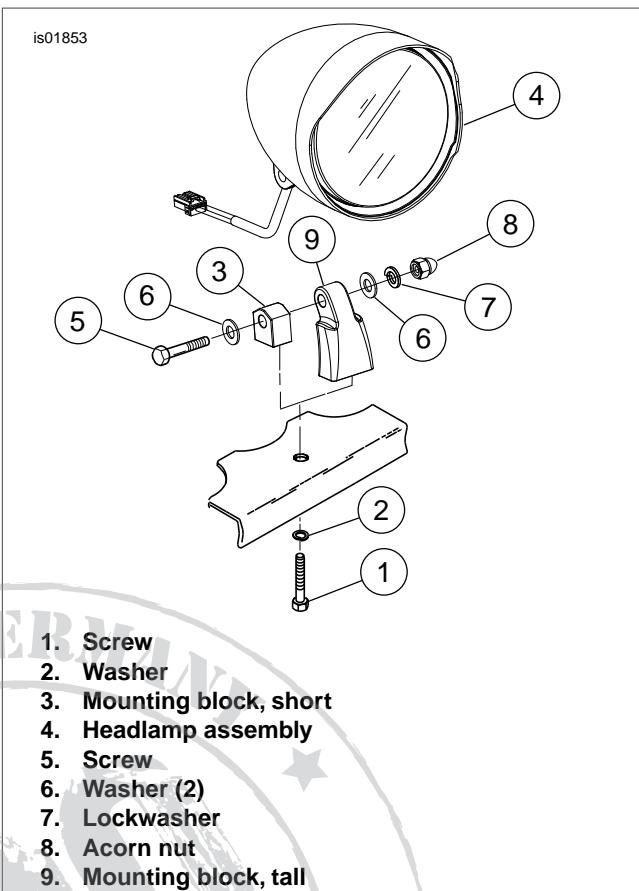

Figure 8. Billet Headlamp Assembly with Short/Tall Mounts
1. *Softail and 1994-2005 FXDWG Models:* See Figure 8. Loosely install vertical adjusting screw (1) from kit and washer (2) previously saved.
2000-Later FXSTD Models: See Figure 8. Loosely install vertical adjusting screw (1) and washer (2) previously saved.
2. Loosely install mounting block (3) and billet headlamp (4) using horizontal adjusting screw (5), washers (6), lock-washer (7), and acorn nut (8).
1. See Table 1 and Figure 8. Loosely install vertical adjusting screw (1) and washer (2) previously saved.
2. Loosely install mounting block (9) and billet headlamp (4) using horizontal adjusting screw (5), washers (6), lock-washer (7), and acorn nut (8).